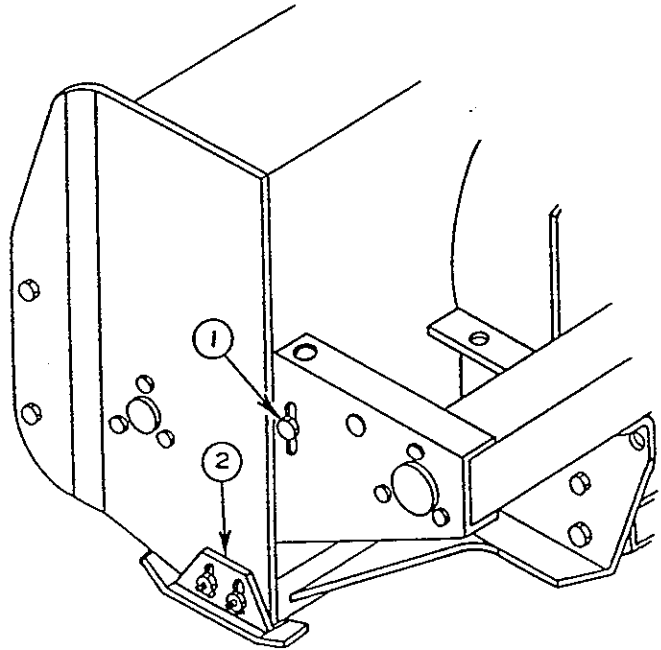

FIGURE 1
To adjust the tension on the drive chain, loosen the bolt (fig.1, item 1), securing the idler sprocket to the snowblower housing. To tighten the chain, lower the bolt. Leave approximately 1/2" deflection in one span of the chain. Retighten securely the bolt holding the idler sprocket.
To adjust the skid shoes (fig.1, item 2), Loosen skid shoe bolts, adjust height according to instructions below and securely tighten bolts: